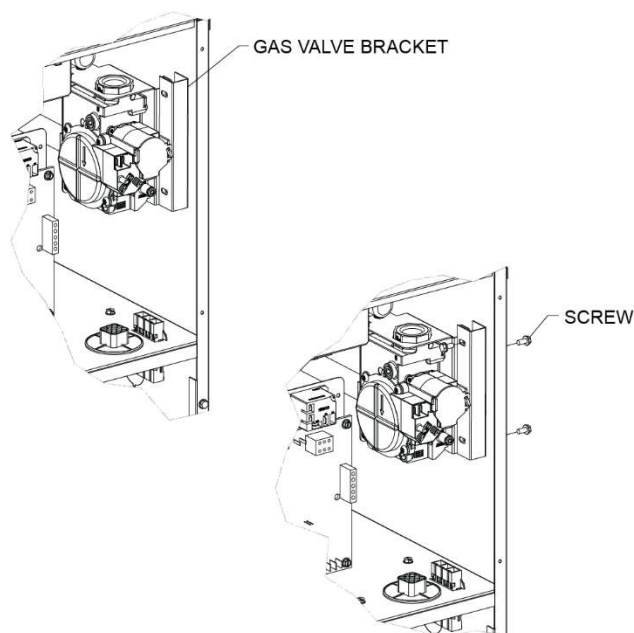

Figure 42- Removal of Gas Valve Bracket
- 3) Remove gas valve bracket. See **Figure 42- Removal of Gas Valve Bracket**